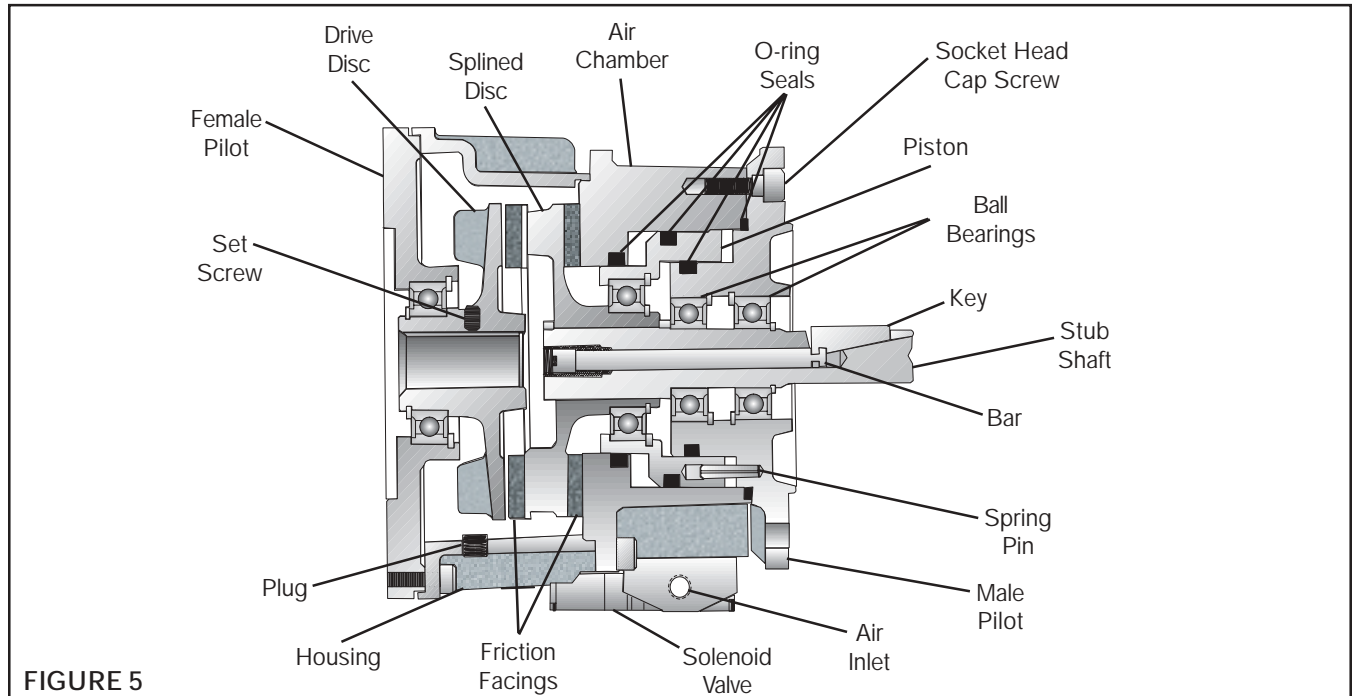

FIGURE 5
3. Install the DIN Connector (See Figure 5).